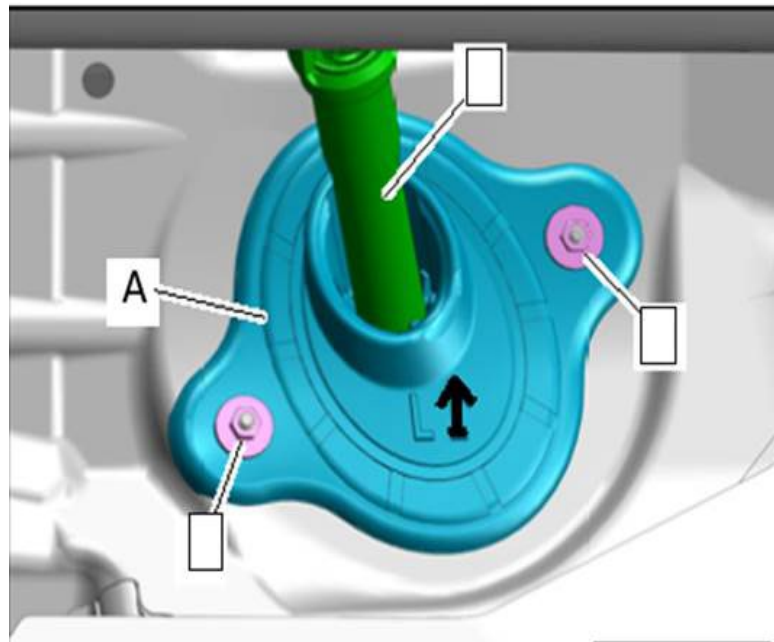

Figure 2. Sealing sleeve (also known as sealing lip).
2. Loosen the rubber sealing sleeve (A) and push it upwards as far as possible and retighten (Figure 2).